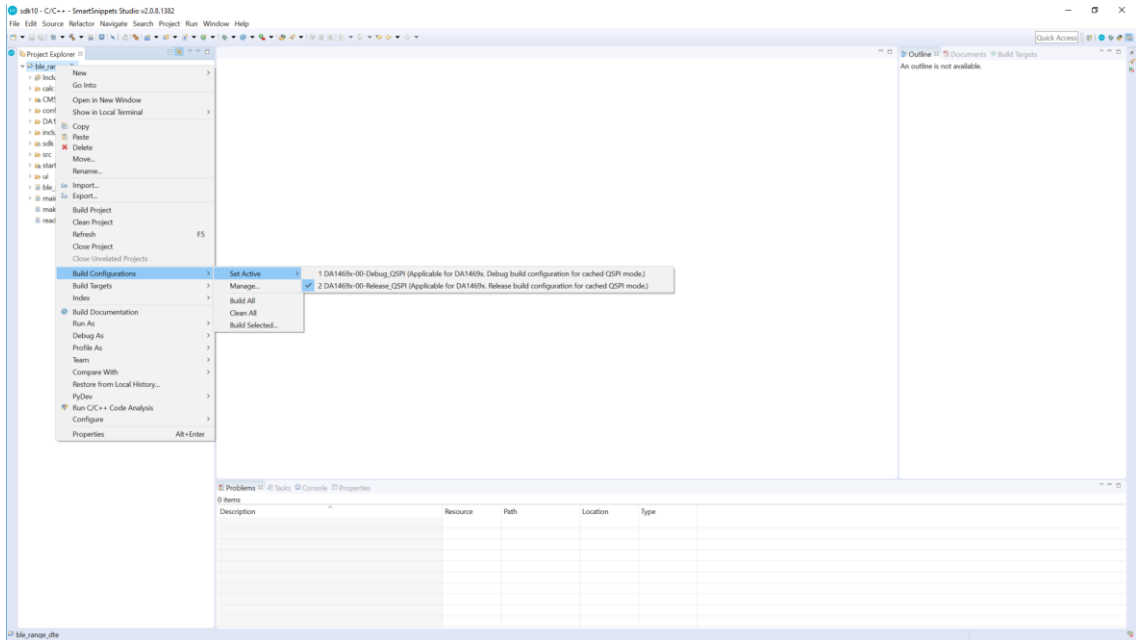

Figure 5: Build Configurations for ble_range_dte Project
2. Select a build configuration and build the ble_range_dte project (Figure 5). Right-click on the project name to get the project menu and select **Build Configurations > Set Active** to see configuration options.